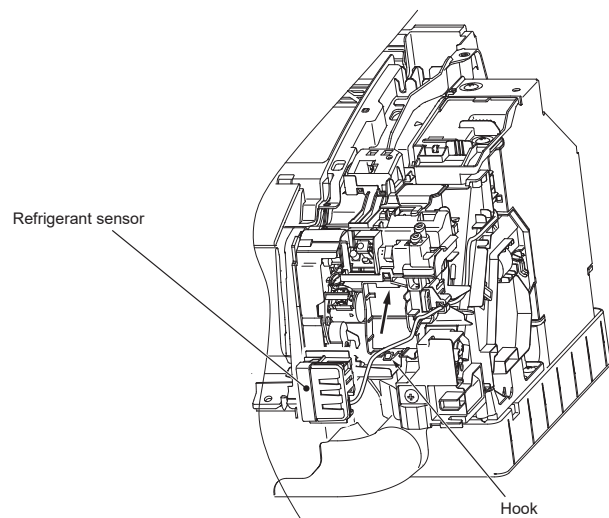

Fig. 2
Installation procedure (Fig. 2)
- 2) Insert the refrigerant sensor in the direction of the arrow and then fix it with the hook. (Fig. 2)